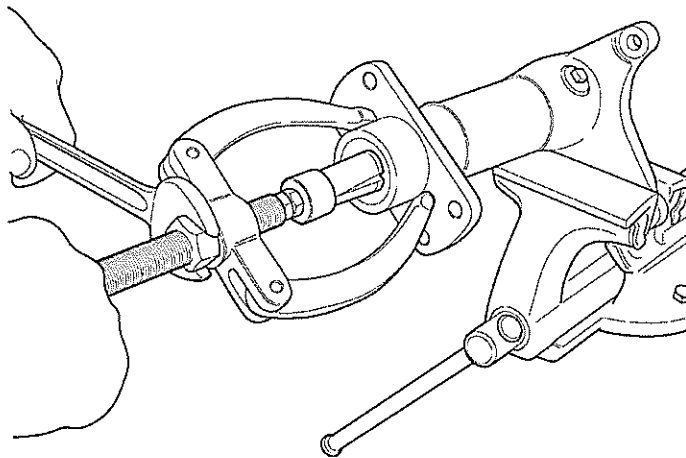

Fig 15 Steering gearbox roller shaft housing bush
- 34.4 Pull out bush with seal using internal puller. Remove and discard O-ring (see Fig 15).